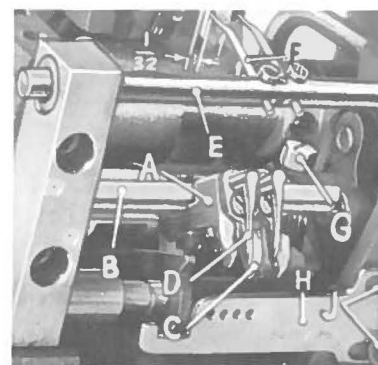
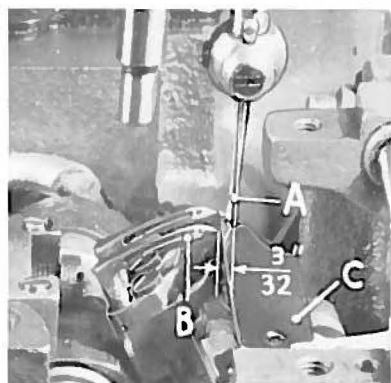
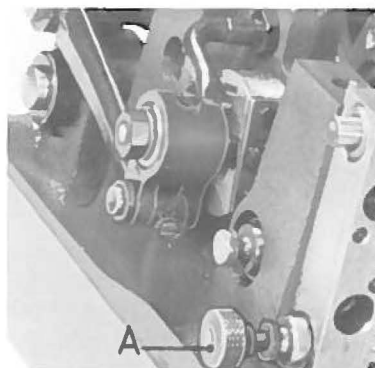
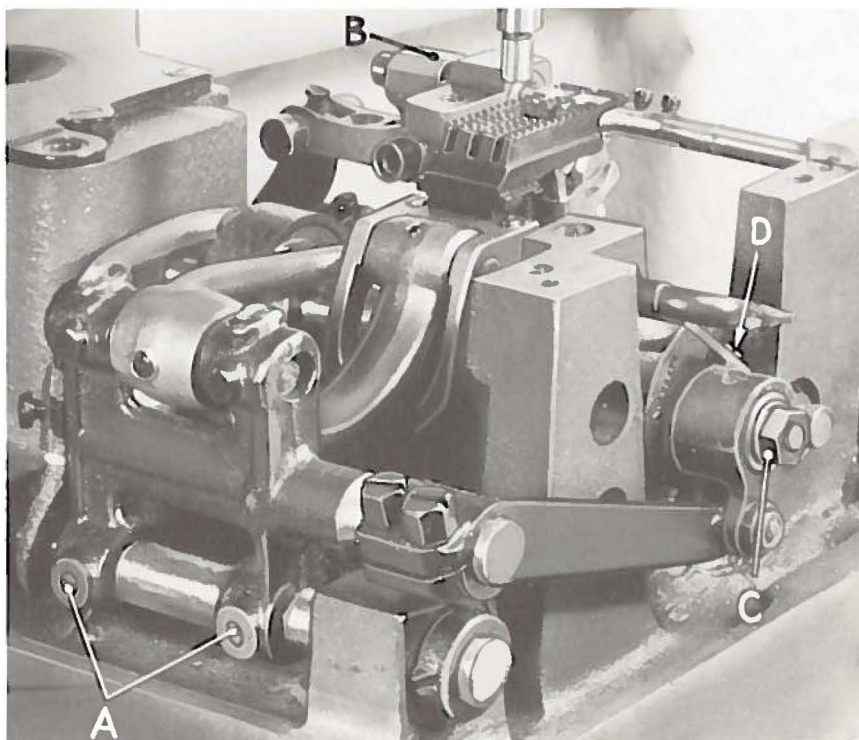

Fig. 6
Fig. 7
Fig. 8
Fig. 10
Assemble looper holder with stationary needle guard (A, Fig. 6) onto looper holder frame (B) and adjust the stationary needle guard so it is just brought up to the needle. Assemble the adjustable needle guard (C) and looper (D) onto looper holder and set so that the right edge of the looper is in line with the stationary needle guard. The distance between the stationary needle guard and the adjustable needle guard to be the same as the large shank section of a needle. Adjust proportionally smaller for smaller than size .049 or .054 needles.
Set looper holder frame (B, Fig. 6) so the distance between the centerline of the needle (A, Fig. 7) and point of looper (B) is $\frac{3}{32}$ inch when needle is at bottom of its travel. Accomplish this by loosening the hexagonal head clamp screw (G, Fig. 6) and moving the holder forward or backward as required and tighten screw. Looper gauge No. 21225- $\frac{3}{32}$ (C, Fig. 7) can be used advantageously in making this adjustment. When loopers move forward their points should pass the left sides of the needles as close as possible, without contacting.
With looper points toward the operator, the loopers should be seated in looper holder as far down as they will go. The loopers may be released to the threading position by pulling the looper holder frame locking pin (A, Fig. 8) to the left when the needles are at the high point of travel. They are returned to the operating position by merely pushing them back until they snap into the locking position. The right side of the looper (D, Fig. 6) should be at right angles to the centerline of the retainer holder shaft (E). Adjust looper thread eyelet (H, Fig. 6) by loosening two screws (J) and move stop from left to right to prevent loopers from being released to the threading position unless needle points are above the throat plate.
Insert the retainer (F, Fig. 6) in the retainer holder bar (E) with the tip of the notched end $\frac{1}{32}$ inch from the needles when the needle bar is at the bottom of its stroke, the notch should be to the right and in a vertical position. Loosen screws in the retainer holder bar connection (B, Fig. 10) and rock the retainer bar so the underside of the retainer is as close as possible to the top of the looper, without contact. Turn the handwheel in the operating direction until the eye of the looper is directly below the point of the retainer. Then, move the retainer holder bar (E, Fig. 6) to the right or left so that the right side of the retainer is directly over the middle of the looper at the eye.
to the left or right, loosen screws (A, Fig. 10) which hold the feed rocker to the feed rocker shaft and move feed rocker to desired position and retighten screws. Make sure that the feed rocker arm does not bind after making this adjustment.
Draw looper and needle threads into the machine. When there are no threads in the machine the loopers may be released into the threading position by turning the handwheel until the needle bar is at high position and pulling the looper holder frame locking pin (A, Fig. 8) to the left. With threads in the machine, proceed in the same manner except hold the needle threads taut to prevent stitch formation while turning handwheel. Return loopers to operating position by pushing against looper holder frame; the needle bar being at its highest position.